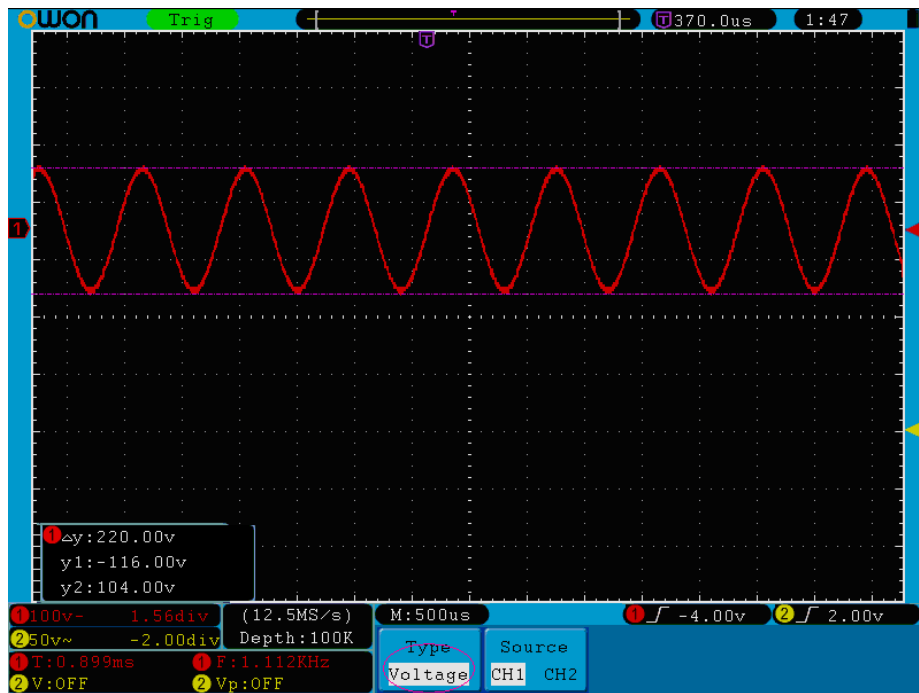

Fig.5-52 Waveform of Voltage Cursor Measurement
4. According to the measured waveform, adjust the positions of Cursor1 and Cursor2 by turning the **VERTICAL POSITION** knob of CH1 and CH2. Cursor increment window at the left bottom of waveform shows absolute value of D-value of cursor 1 and cursor 2 and the present position of the two cursors. (See **Fig.5-52**).